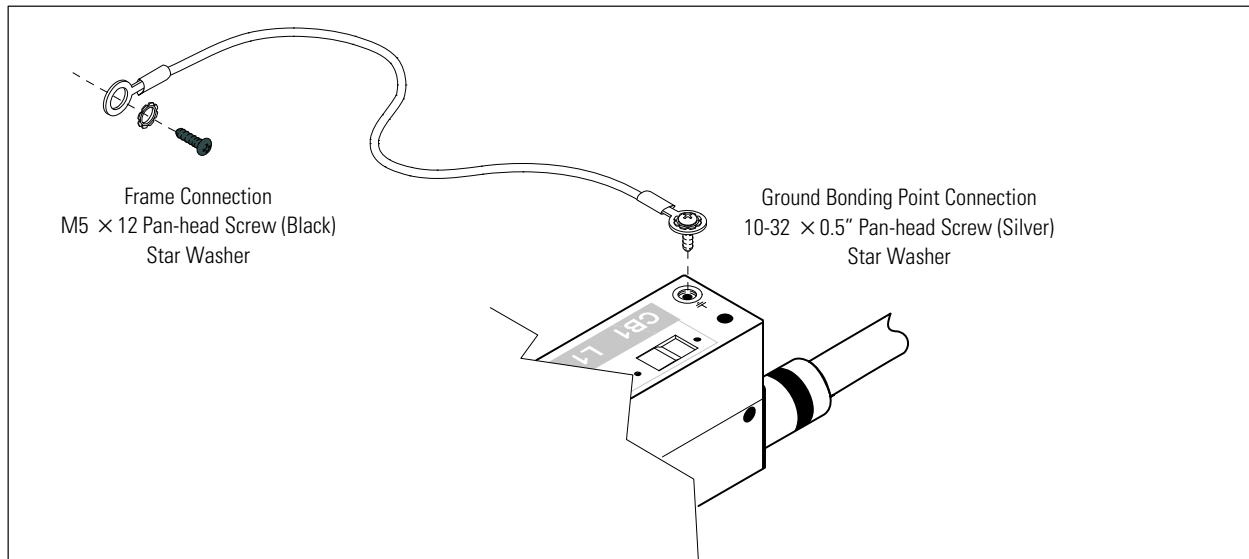

Figure 10. Ground Bonding Point and Frame Connections
- 2 Connect the other end of the ground wire to a hole in the rack frame using the black, M5 × 12 pan-head screw and star washer (supplied). See Figure 10.